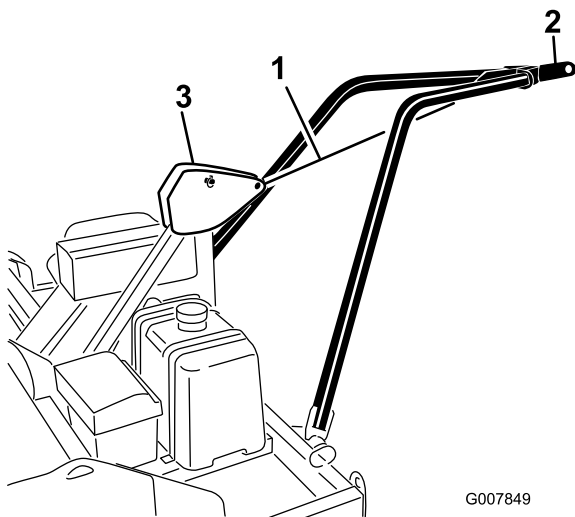

Figure 12
- 2. Using a tie down or rope, secure the tow-arm hitch plate to the frame hitch pivot while raising the tow-arm for installation (Figure 12).